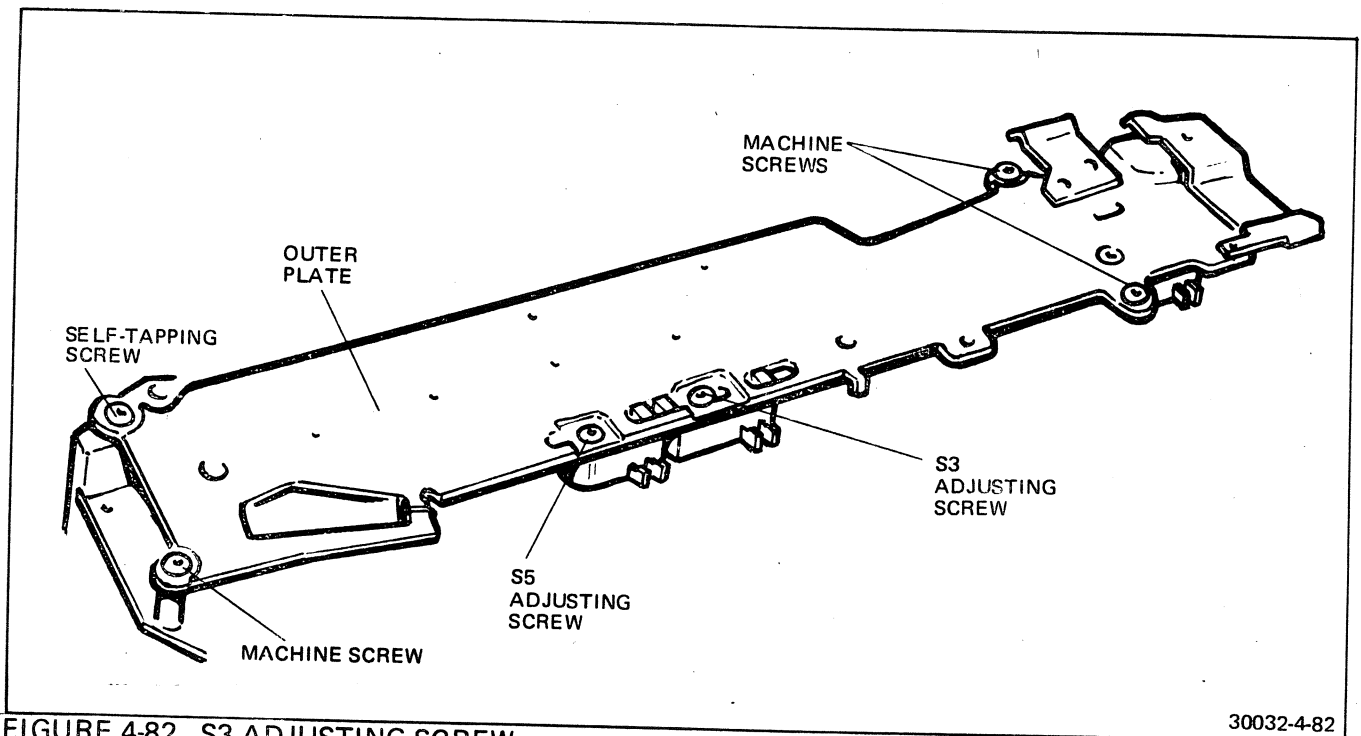

FIGURE 4-82 S3 ADJUSTING SCREW
- d. Refer to Figure 4-82. Remove the S3 adjusting screw. Note that a tab on the switch body rides in a slot to prevent S3 from rotating.
- h. To install the replacement switch, refer to Figure 4-82. Insert the switch in such a position that the arm of the contacts will be as shown on the illustration.